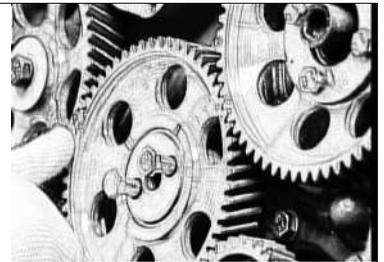

Fig 5-26 Timing Gear System Installation
2.15 Opening and closing of Intake valves and exhaust valves and fuel supply time are determined by timing gear system. When installing, align the mark on the idle gear with that of camshaft gear, injection pump gear and crankshaft gear, and tighten screws firmly (see Fig 5-26).